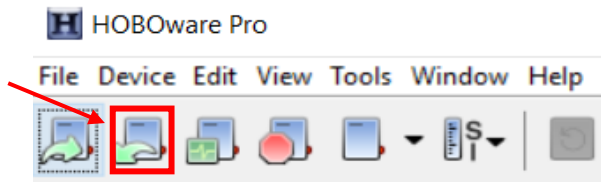

Figure A.1.12: HOBOWare “Readout” button.
3. Click the “Readout” button on the top left corner of the screen (Figure A.1.12).